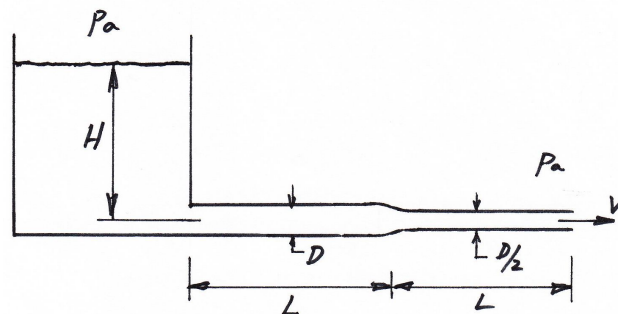

Figure P8.45
8.45 A water tank of constant depth H , open to the atmosphere, is connected to the piping system, as shown in Figure P8.45. After a length of pipe L of diameter D , the diameter decreases smoothly to a value of $D/2$ and then continues on for another length L before exiting to atmosphere. The flow is turbulent and the friction factor f is the same for all piping. C_{D1} and C_{D2} are the loss coefficients for the entry and exit. Calculate the depth of the tank required to produce a mean exit velocity of V .